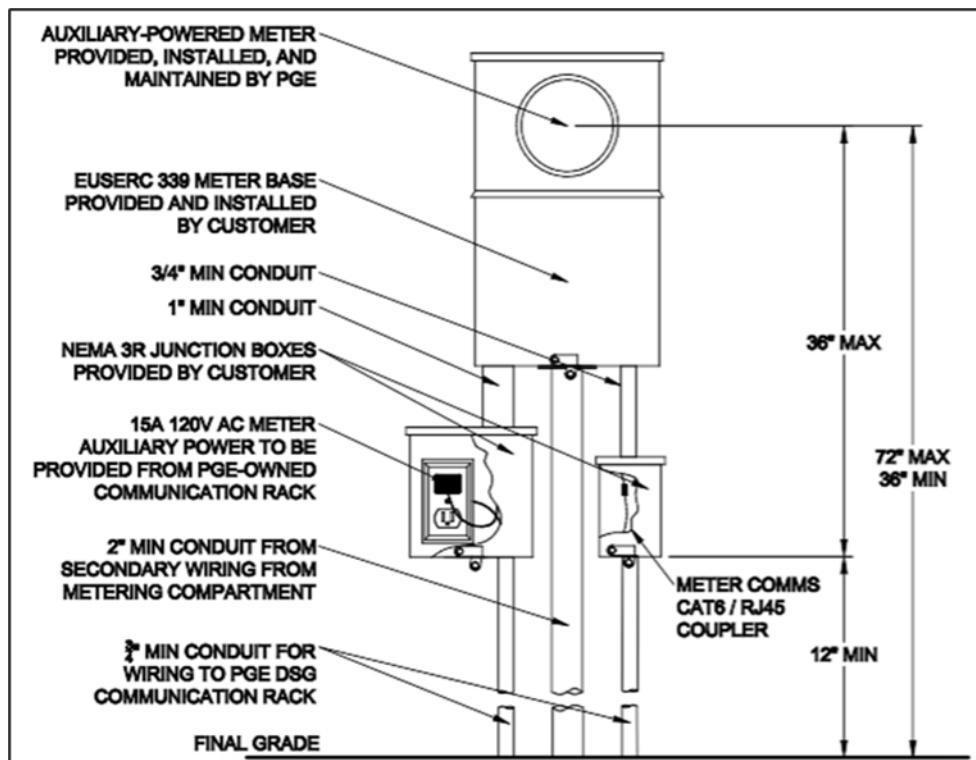

Figure 22. Remote Meter Configuration Used for DSG (STD-M-4001)
If a customer is participating in PGE's Dispatchable Standby Generation (DSG) program or is a Qualified Facility (QF) greater than 3 MW, the customer is required to provide a remote meter enclosure with additional provisions for an Ethernet connection from the meter to the customer's local telecommunications point of presence. The customer is responsible for meeting PGE's DSG communication requirements for real-time monitoring. DSG metering requirements are shown in Figure 22.